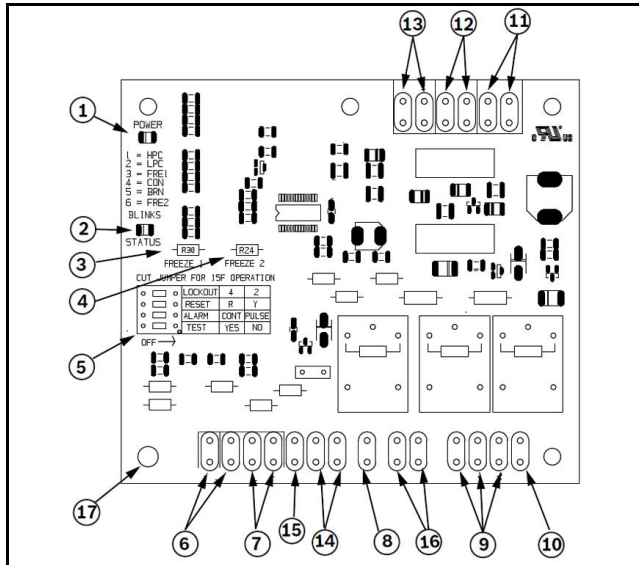
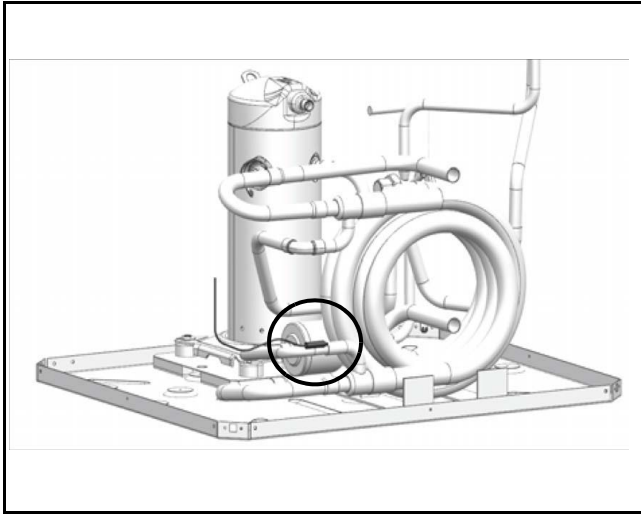

Fig. 15 UPM controller board
Fig. 16 Waterside Freeze Protection Sensor Location
- Waterside freeze protection sensor, mounted close to condensing water coil, monitors refrigerant temperature between condensing water coil and thermal expansion valve or capillary tube. If temperature drops below or remains at freeze limit trip for 30 seconds, the controller will shut down the compressor and enter into a soft-lockout condition. The default freeze limit trip is 26°F; however, this can be changed to 15°F by cutting the R30 (Freeze 1) resistor located on top of DIP switch SW1 (Refer to Fig. 15, item [3] for resistor location). Refer to Fig. 16 for sensor location.
- The condensate overflow protection sensor is located in the drain pan of the unit and connected to the "COND" terminal on the UPM board. (Refer to Fig. 15, item [15].)
- FREEZE SENSOR:** The default setting for the freeze limit trip is 26°F (Sensor 1); however, this can be changed to 15°F by cutting the R30 resistor located on top of the DIP switch SW1, freeze limit trip should only be changed to 15°F when a closed loop system with appropriate antifreeze mixture is used. **Since Freeze Sensor 2 is dedicated to monitor the load side coil it is recommended to leave the factory default setting on the board.** The UPM controller will constantly monitor the refrigerant temperature with the sensor mounted close to the condensing water coil between the thermal expansion valve and water coil. If temperature drops below or remains at the freeze-limit trip for 30 seconds, the controller will shut the compressor down and enter into a soft-lockout condition. Both the status LED and the alarm contact will be active. The status LED will be active, blinking the fault code. The LED will flash (3 times) the code associated with this alarm condition. If this alarm occurs 2 times (or 4 if Dip switch is set to 4) within an hour the UPM controller will enter into a hard-lockout condition. It will constantly monitor the refrigerant temperature with the sensor mounted close to the evaporator between the thermal expansion valve and evaporator coil as shown in Fig. 16. If temperature drops below or remains at the freeze limit trip for 30 seconds, the controller will shut the compressor down and enter into a soft-lockout condition. Both the status LED and the alarm contact will be active. The status LED will be active, blinking the fault code. The LED will flash 3 times the code associated with this alarm condition. If this alarm occurs 2 times (or 4 if Dip switch is set to 4) within an hour the controller will enter into a hard-lockout condition.